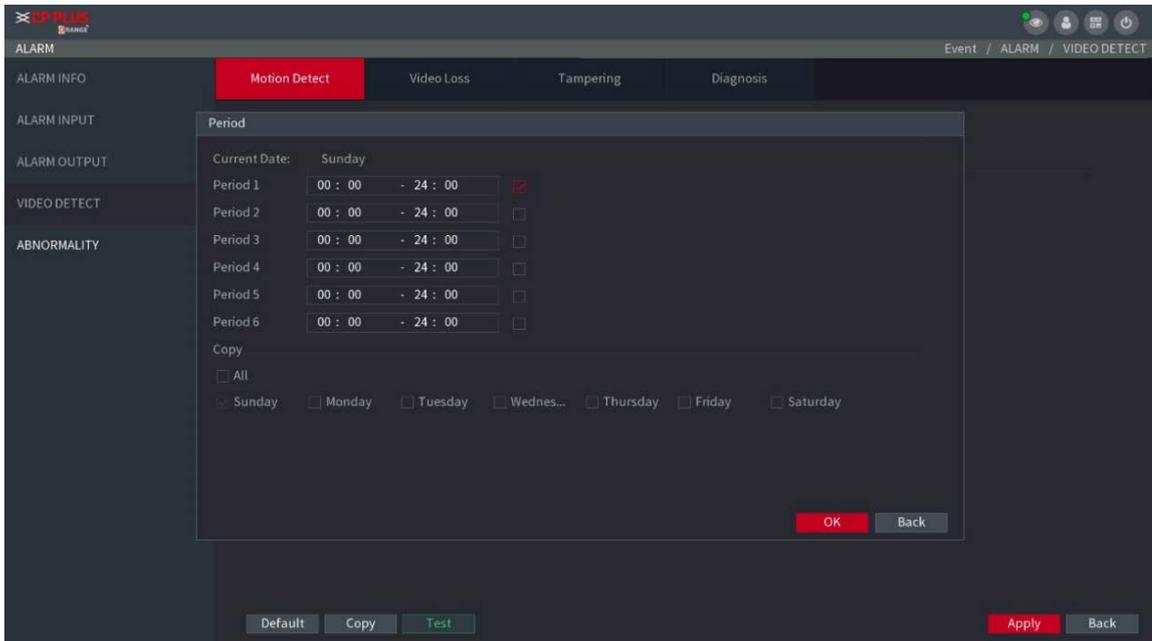

Figure 5-89
Step 3 Select **Main Menu** → **Event** → **VIDEO DETECT**, and select the event type to configure, for example, select the **Motion Detect** tab. See Figure 5-89.